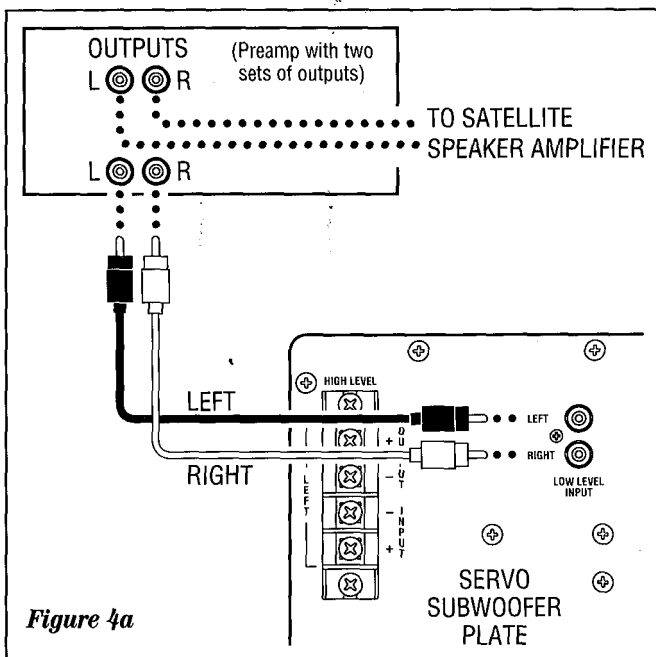
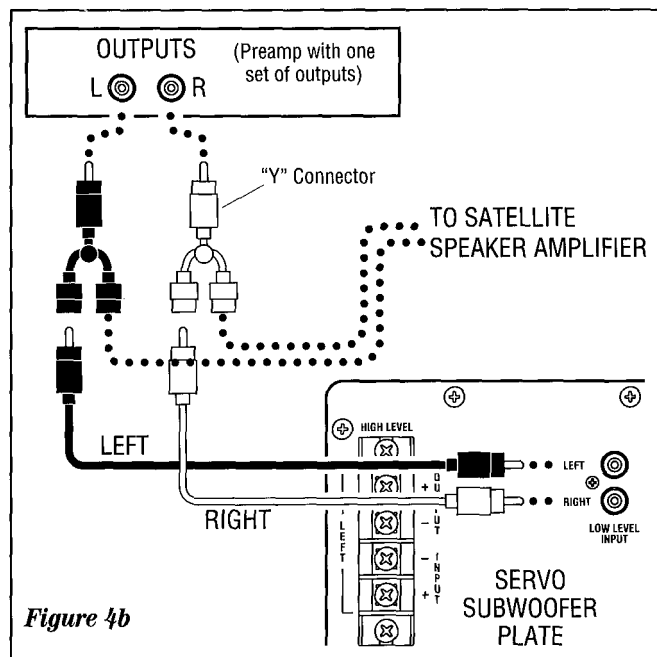

Figure 4a
Figure 4b
The RS 10 SUB or RS 12 SUB may be fed directly with a low level signal taken from your preamplifier's output by using the second set of output jacks on the rear of your preamplifier (see figure 4a). If your preamplifier has only one set of outputs you may use two (2) "Y" connectors (see figure 4b) to connect your subwoofer. Use standard shielded leads terminated at each end with male RCA connectors. Connect one end of each stereo pair of leads to your preamplifier's left and right outputs and connect the other end to the corresponding left and right LOW LEVEL INPUTS (1) on the subwoofer.